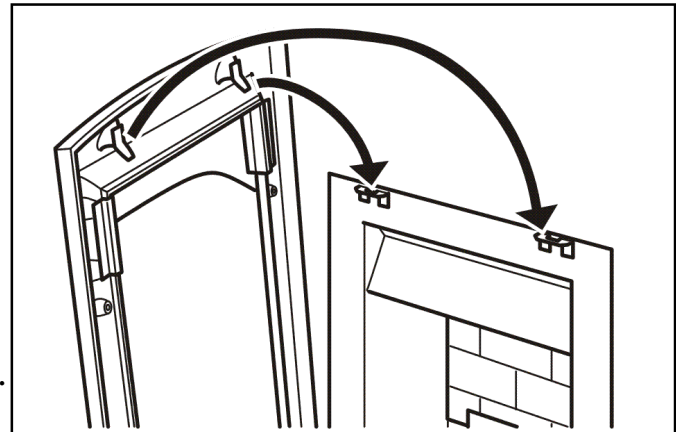

Figure 32. "Dream" fascia top location
2. Lower the fascia making sure that the rear retaining plates locate fully into the retaining brackets on the convection box (See figure 32). If the inlet pipe runs along the front of the fireplace, the bottom of the fascia will have to be swung forwards to clear the pipe while lowering the casting.